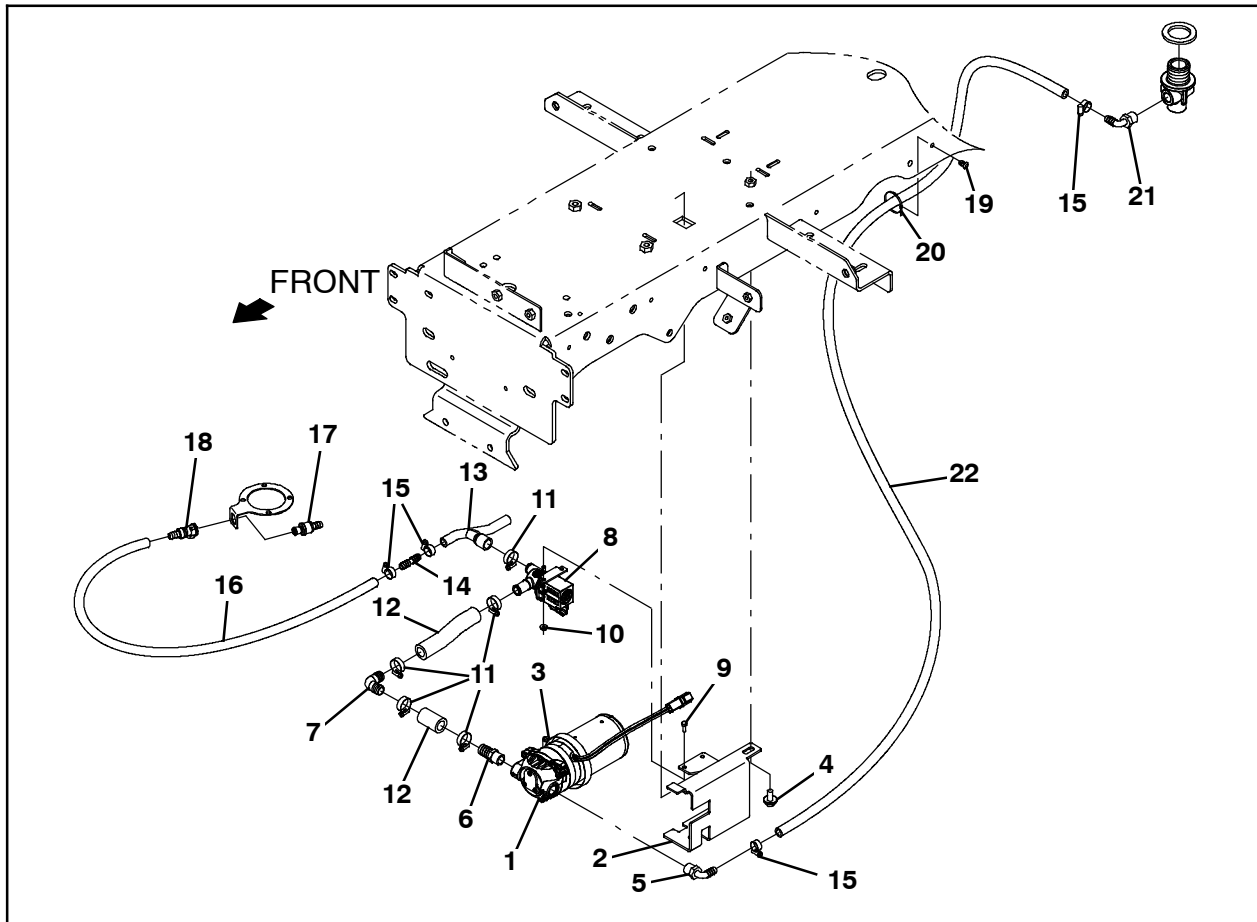
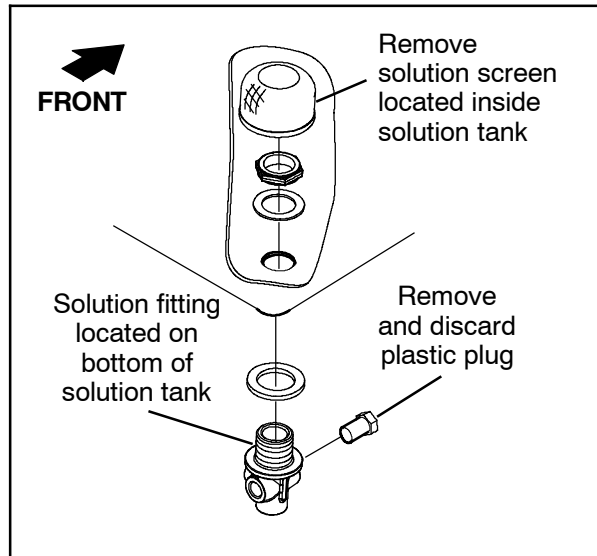

FIG. 6
FIG. 7
11. Install plastic straight fitting (6) and a 90° plastic fitting (5) into the solution pump (1). (Fig. 6)
12. Use a hose clamp (3) to install the solution pump bracket (2) onto the solution pump (1). (Fig. 6)
13. Use two M5 hex screws (9) and two M5 flange hex nuts (10) to install the water solenoid valve (8) onto the solution pump bracket (2). (Fig. 6)
14. Use hose clamps (11) to connect the two 12" PVC hoses (12) to the 90° plastic fitting (7). (Fig. 6)
15. Use hose clamps (11) to connect the items assembled in the previous step to the water solenoid valve (8) and the plastic straight fitting (6) in the solution pump (1). (Fig. 7)
16. Install the plastic straight fitting (14) into the side brush solution manifold (13) and use a hose clamp (15) to secure the fitting inside the manifold. (Fig. 6)
17. Use a hose clamp (11) to install the side brush solution manifold (13) onto the water solenoid valve (8). (Fig. 6)
18. Use a hose clamp (15) to install the 36" PVC hose (16) onto the plastic straight fitting (14) in the side brush solution manifold (13). (Fig. 6)
19. Install the plastic straight fitting (18) into the 36" PVC hose (16). (Fig. 6)
20. Insert the solution pump bracket (2) tab into square hole in frame of machine and use one SEMS M8 hex screw (4) to secure the solution pump bracket / solution pump (1) onto the frame of the machine. (Fig. 6)
21. Remove filter screen located inside the solution tank from the solution fitting. (Fig. 7)
22. Remove the solution fitting from the bottom of the solution tank. (Fig. 7)
23. Remove the plastic plug from the solution fitting. Discard the plastic plug. (Fig. 7)
24. Install the 90° plastic fitting (21) onto the solution fitting. (Fig. 6)
25. Reinstall the solution fitting onto the bottom of the solution tank. (Fig. 6 / Fig. 7)
26. Reinstall the filter screen into the solution tank. (Fig. 7)
27. Use a hose clamp (15) to connect the 96" PVC hose (22) to the 90° plastic fitting (21) on the solution fitting. (Fig. 6)
28. Route the 96" PVC hose (22) to the solution pump (1) and use a hose clamp (15) to connect the 96" PVC hose to the 90° plastic fitting (5) i the solution pump (1). (Fig. 6)
29. Route the 96" PVC hose (22) to the solution pump (1) and use a hose clamp (15) to connect the 96" PVC hose to the 90° plastic fitting (5) i the solution pump (1). (Fig. 6)
30. Route the 36" PVC hose (16) connected to the water solenoid valve (8) assembly to the side brush assembly and connect the 36" PVC hose to the plastic straight fitting (17) installed on the side brush assembly. (Fig. 6)